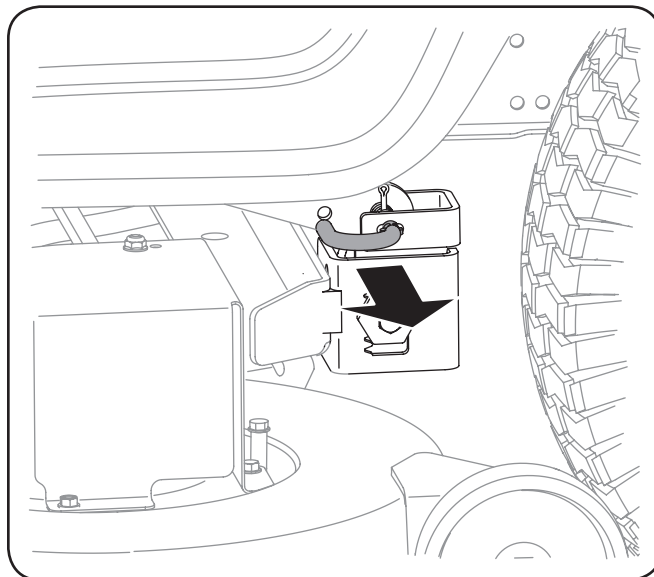

Figure 7-3
6. Looking at the cutting deck from the left side of the tractor, locate the deck support pin on the rear left side of the deck. See Fig. 7-3. Pull the deck support pin outward to release the deck from the deck lift arm.